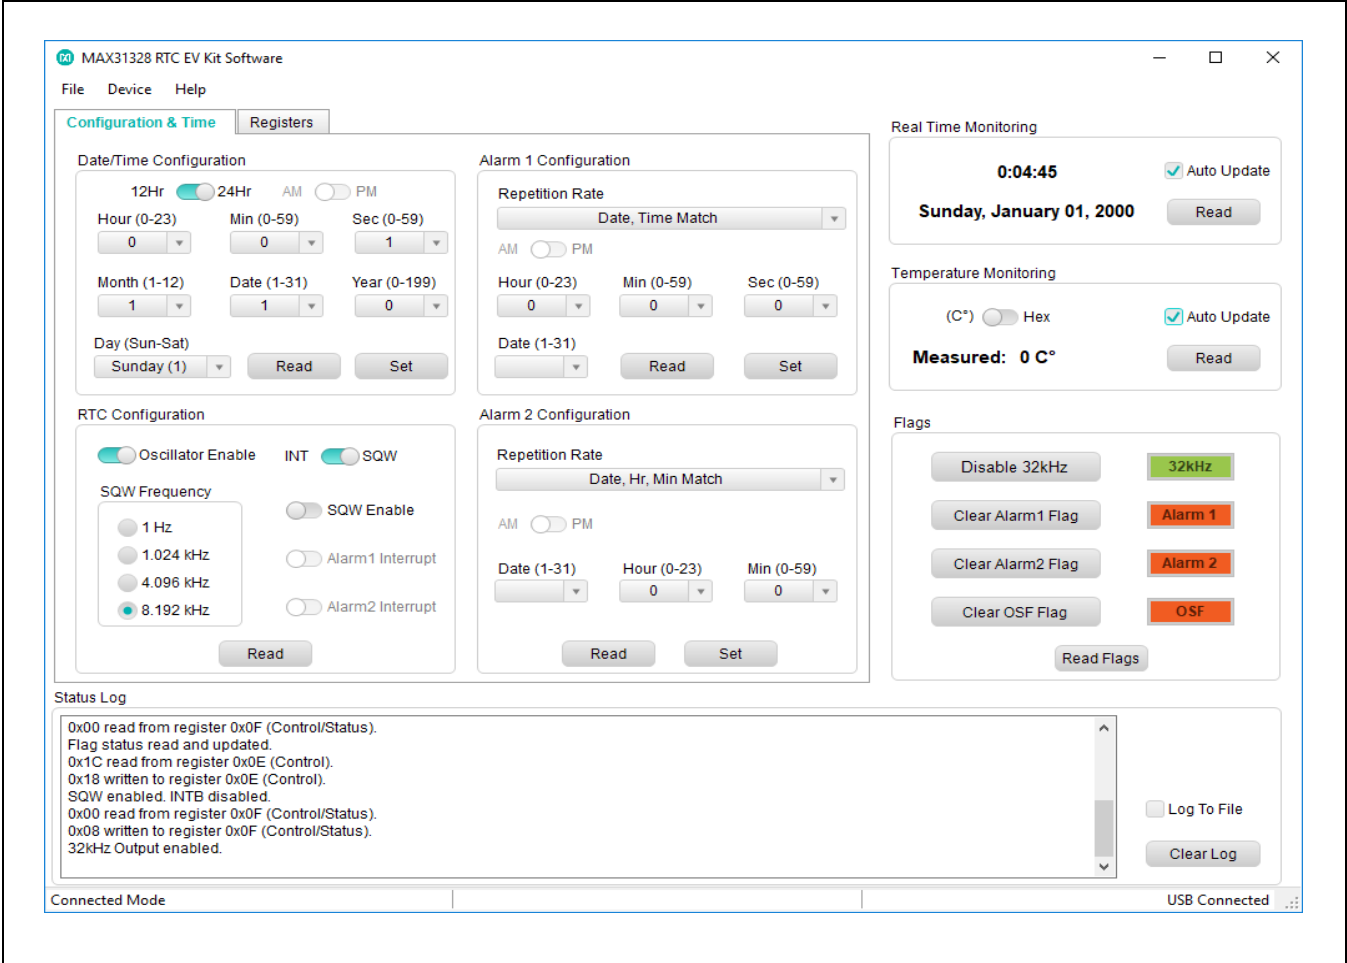

Figure 2. MAX31328 RTC Shield Software—Configuration & Time Page
6. Open the MAX31328 RTC SHIELD Software, shown as Figure 2.
Use the **Alarm 1 Configuration** and **Alarm 2 Configuration** to configure Alarm 1 and Alarm 2 (See Figure 2).